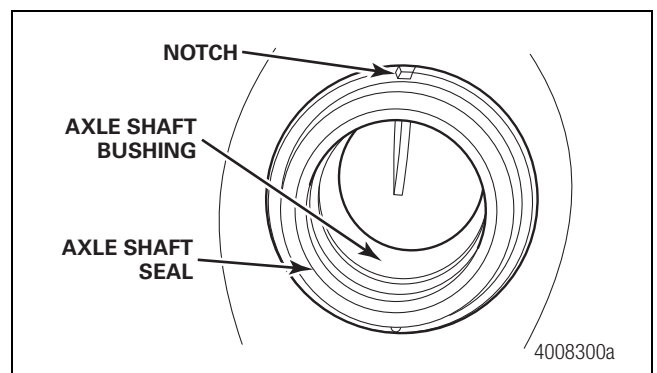

Figure 3.6
11. Remove the axle shaft seals from the housing. Figure 3.6.